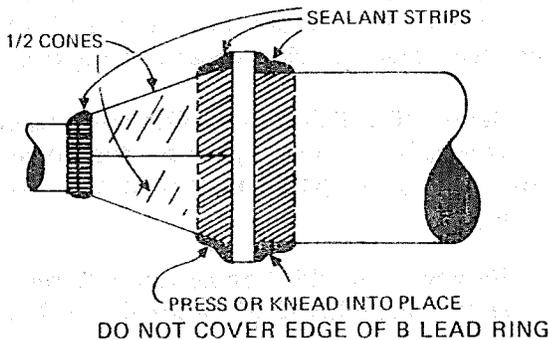
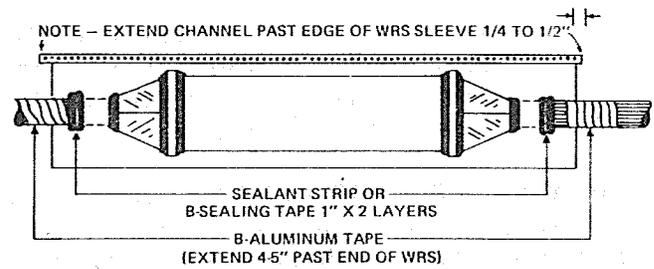

Fig. 28
Fig. 29
(8) Install the sealant-coated split cones around the cable as shown in Fig. 28. Be sure that there are no gaps between the face of the lead disc and the rear of the cones.
(9) Press the sealant strips into place as shown in Fig. 28. Do Not Apply the strips on top of the B lead ring.
(10) Place a piece of sealant and a 2-inch by 2-inch piece of B aluminum tape over the pressure test flange and plug.
(11) Before positioning the WRS, remove the release paper backing, which covers the sealant on the inside of the WRS.
(12) Position the WRS over the sleeve so that it overlaps the aluminum tape by approximately 2 inches. The aluminum tape should extend at least 5 inches beyond the edge of the WRS as shown in Fig. 29.